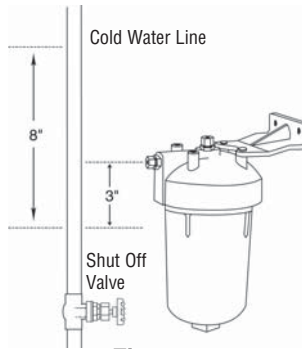

Figure 5
5. Measure down from the centerline of the filter inlet about 3" and mark the tube. From this mark, measure up 8" and mark the tube. This is the section of the tube to be removed. If necessary, because of tight quarters, additional tube can be cut away. (Figure 5)